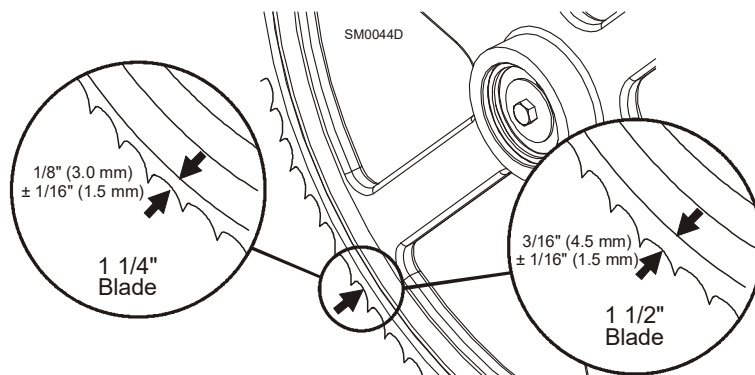

FIG. 3-8
8. Adjust the wheel by turning the cant control until the gullet of the blade is the correct distance from the front edge of the wheel. **See Fig. 3-8.**